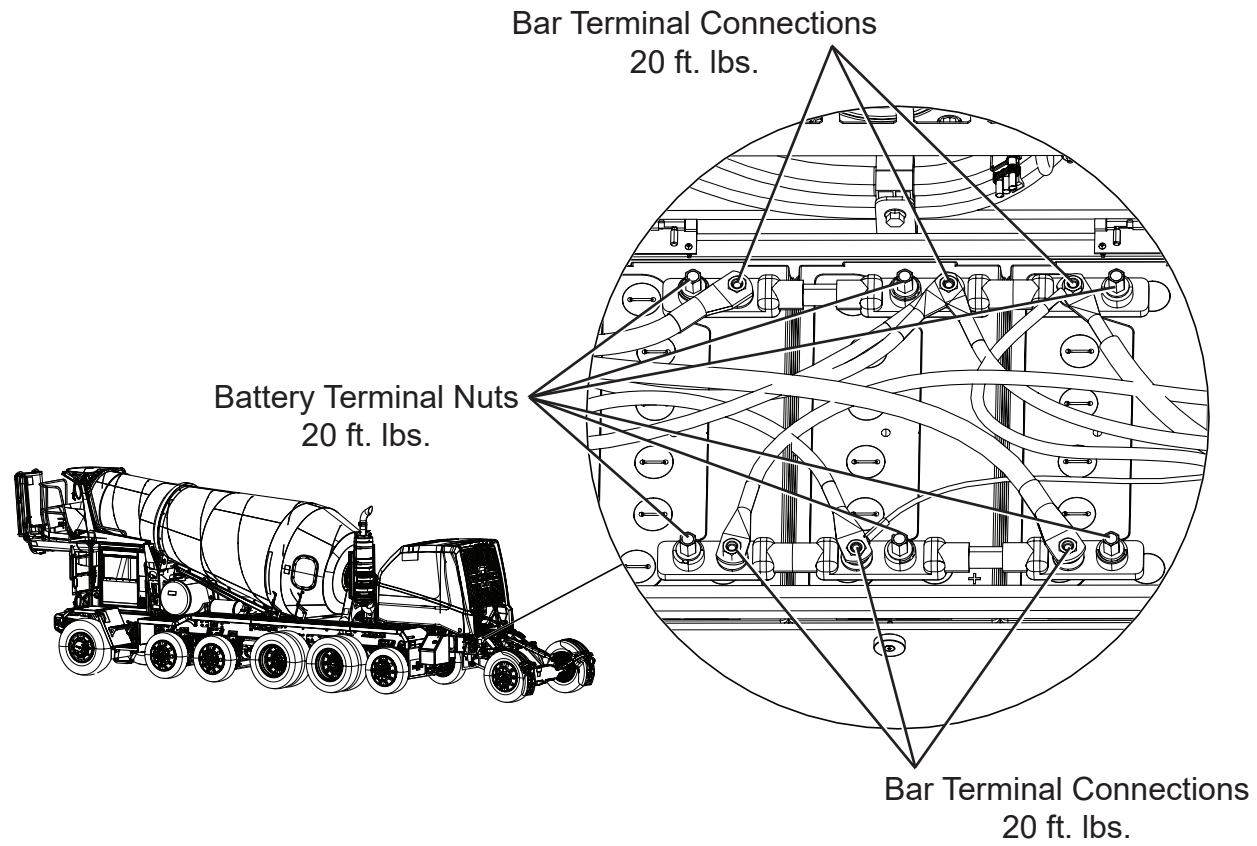

Figure 3
- 5. Check the battery terminal nuts and the bar terminal connections torque, see Figure 3.